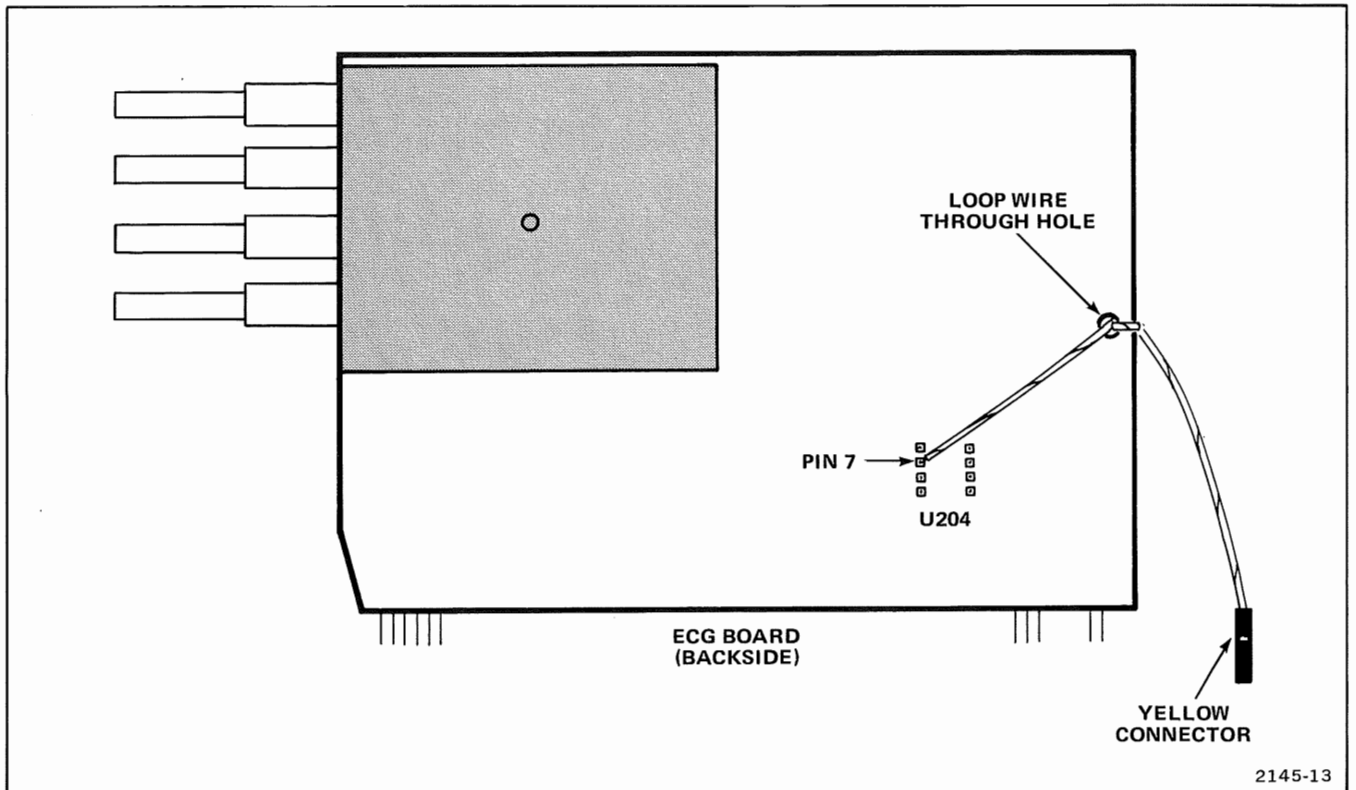

Figure 1-13. Installing wire to ECG Board.
8. Install white-yellow wire on ECG board as shown in Figure 1-13.